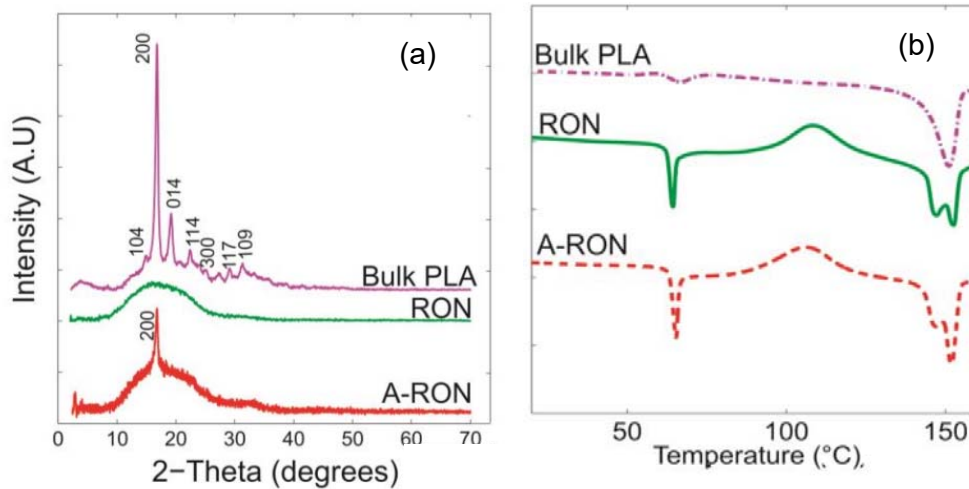

Figure 2: Spectrum for XRD and DSC results for PLA, RON and A-RON samples
- (5). (a). **Figure 2** shows the characteristics of poly(lactic acid) (PLA), randomly oriented nanofiber (RON) and annealed randomly oriented nanofiber (A-RON). Elaborate on the crystallization behaviour of all samples in **Figure 2**.